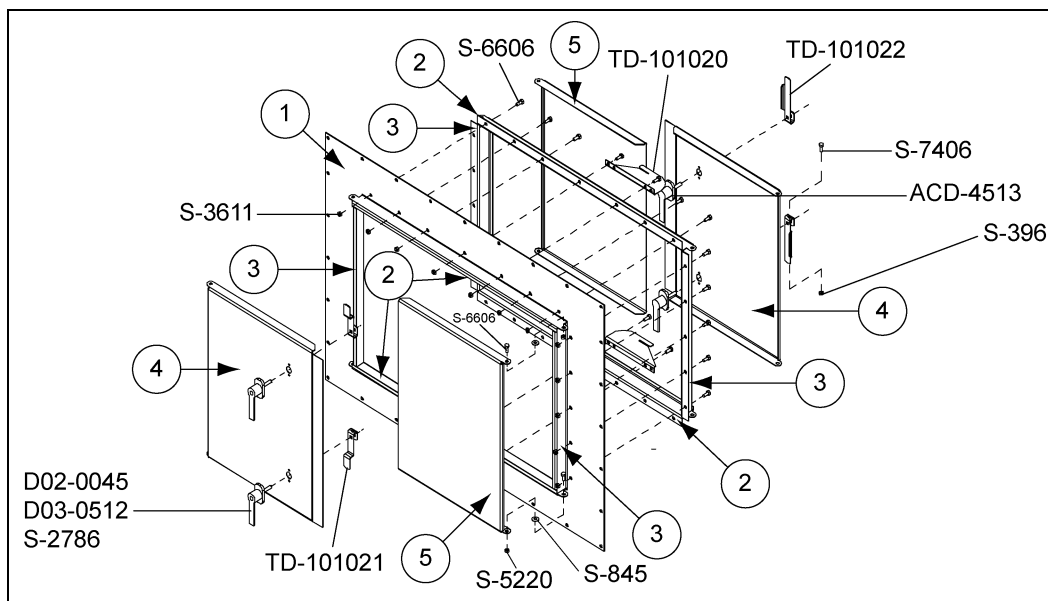

Figure 9R
5. With the nut and bolt supplied, attach the appropriate latches to the handles and lock them. (*Refer to Figure 9R.*) Adjust front latches (TD-101021) to catch the inside lip of the front Z-frames. Adjust rear latches (TD-101022) to fit the slot in the top and bottom catches attached to the rear Z-frames.